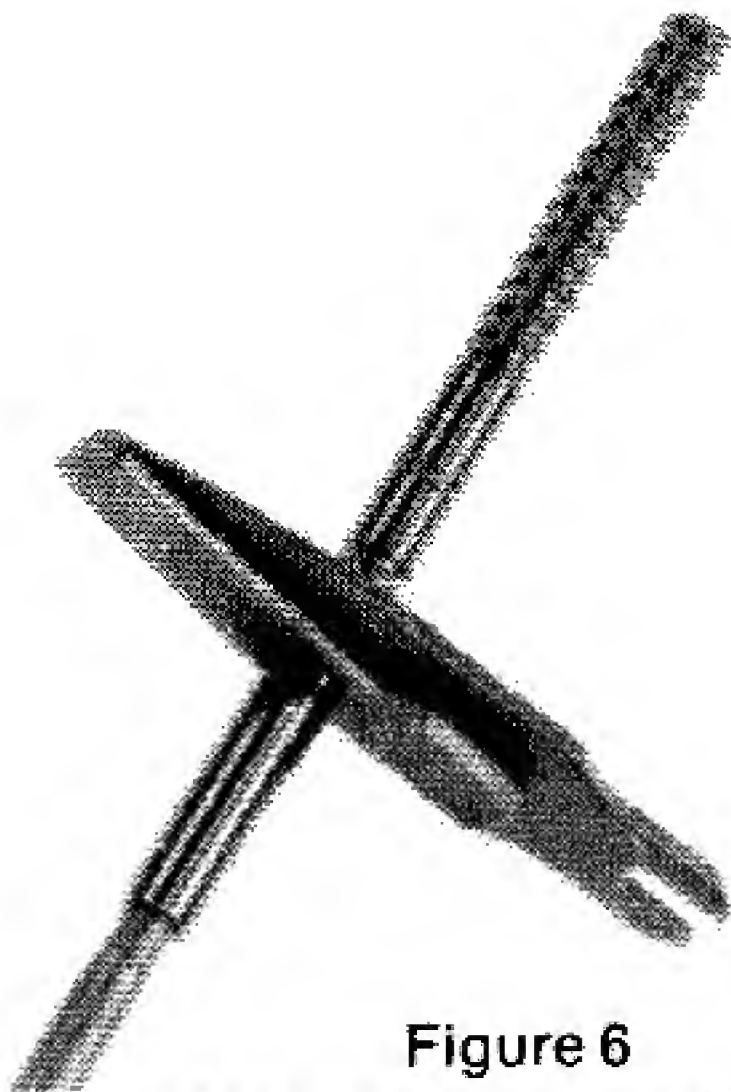

Figure 6
- 3. Install the jag or brush on the threaded end of the cleaning rod. (See Figure 6 to install jag with combination tool.)